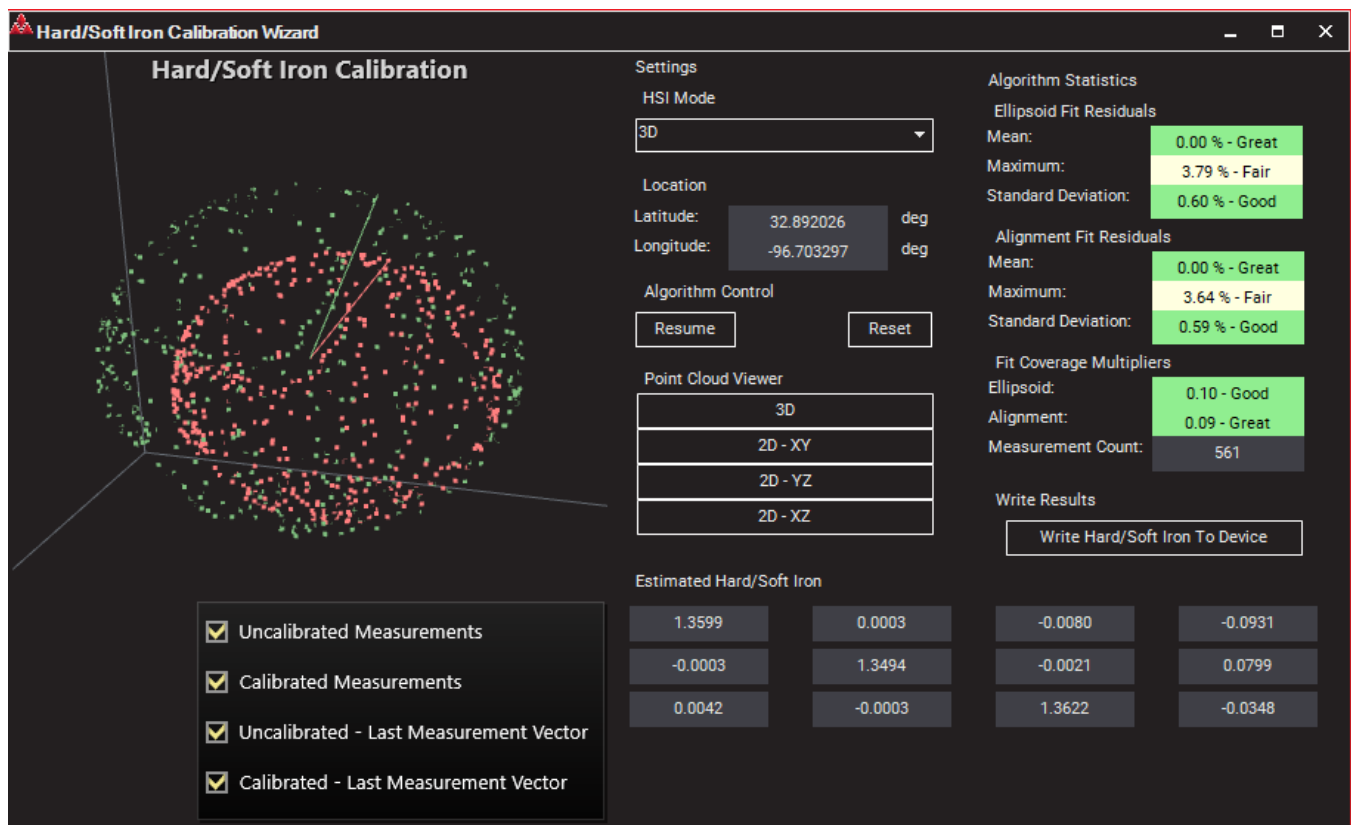

FIGURE 2
4. The calibration wizard window in Figure 2 should now appear, which provides different information for the user: